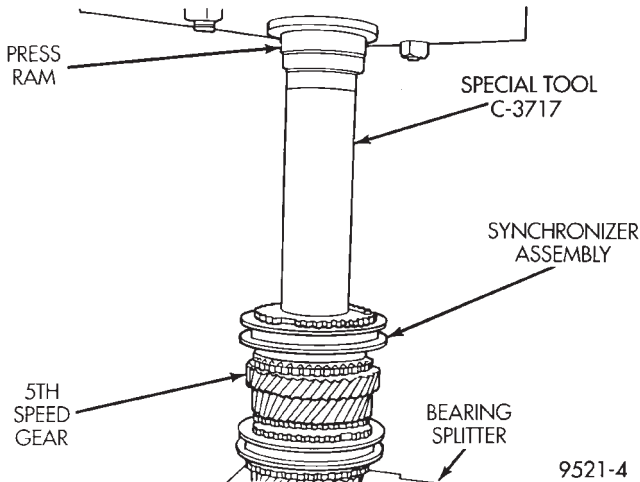

Fig. 104 5th Speed Gear Installation
(11) Using special tool #C-3717, install 5th speed gear and synchronizer (Fig. 104). The 5th gear synchronizer hub has the letter **S** stamped on the top face of the hub. This designates that the hub must be installed with the **S** facing upward.